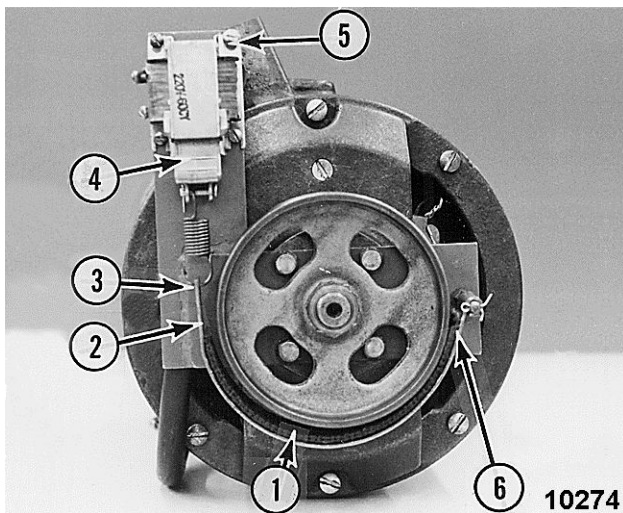

Fig. 118
3. Place the brake spring in the top hole on brake band [3] Fig. 118.
7. Pull the solenoid armature [4] Fig. 118 up by hand until brake lining touches the brake drum. With no tension on brake spring, the remaining travel of the solenoid armature should be no more than 5/16".
9. Should none of the above steps decrease braking action enough, remove brake band and grind down brake lining near pivot end [6] Fig. 118 until it clears the brake drum.